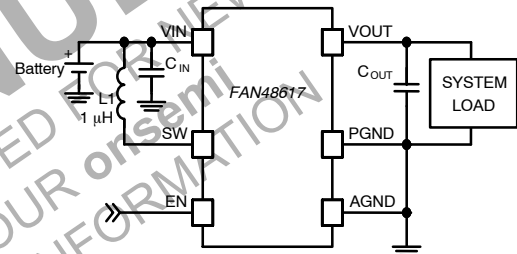

Figure 1. Typical Application
**ELECTRICAL CHARACTERISTICS** (Recommended operating conditions, unless otherwise noted, circuit per Figure 1,  $V_{OUT} = 5.0\text{ V}$ . Typical, minimum and maximum values are given at  $V_{IN} = 3.6\text{ V}$ ,  $T_A = 25^\circ\text{C}$ ,  $-40^\circ\text{C}$ , and  $+85^\circ\text{C}$ .)
(Unless otherwise specified;  $V_{IN} = 3.6\text{ V}$ ,  $V_{OUT} = 5.0\text{ V}$ ,  $T_A = 25^\circ\text{C}$ , and circuit according to Figure 1.)